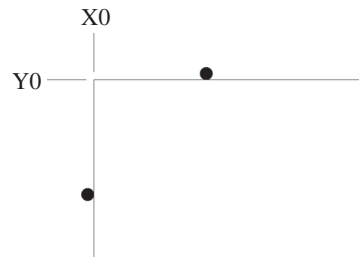

Figure 4:1
A. Pick Up Two Edges as in Figure 4:1.